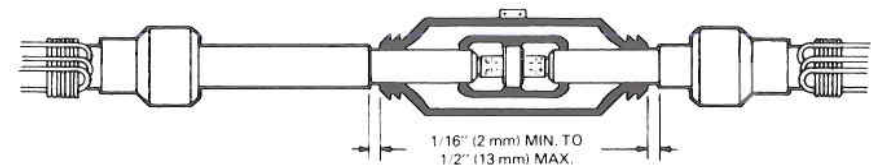

FIG. 4
9. Center splice body over connector as in Figure 4.